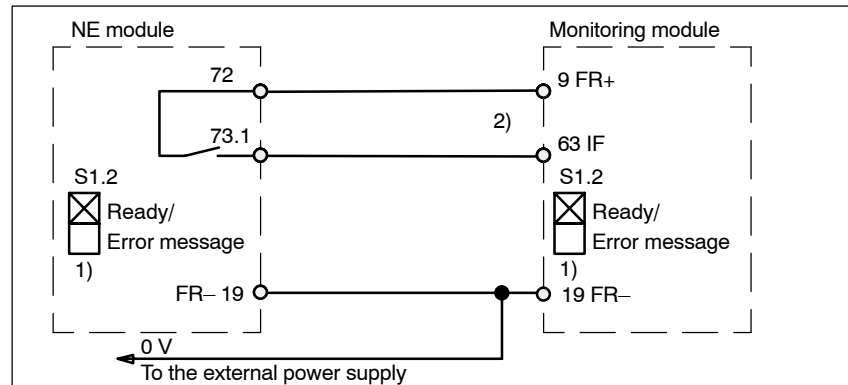

Fig. 8-7 Instantaneous shutdown, pulse enable
- Instantaneous shutdown, pulse enable --> refer to Fig. 8-7